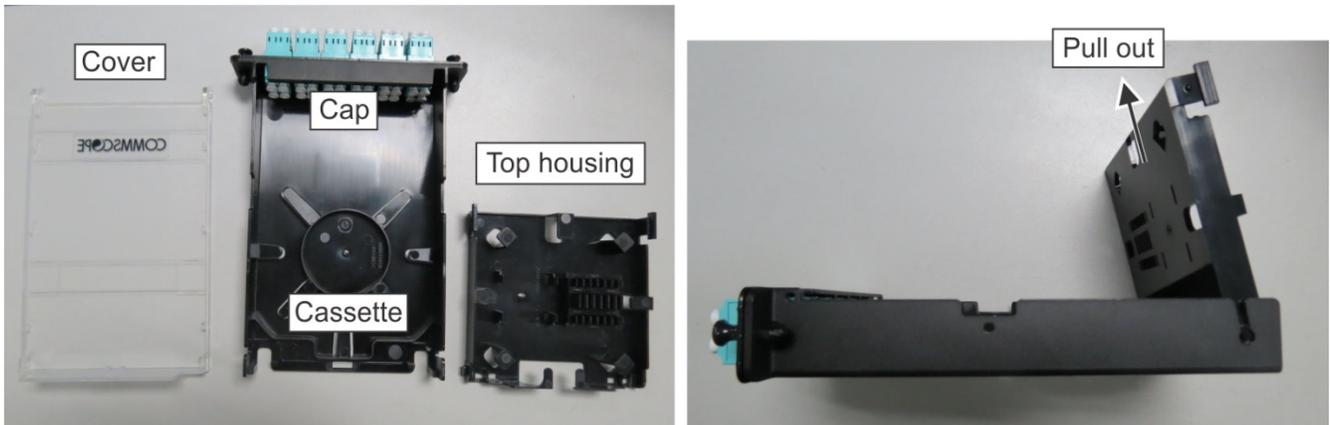

Figure 11. Prepare Work
2. Open the top housing to an angle of 80° and pull upward to remove it from the cassette (Figure 11, right picture).